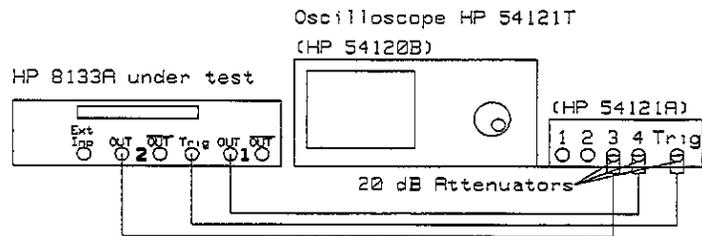

Figure 6-11. Inter-Channel Delay Test Set-up
28. Connect the HP 8133A to the 'scope as shown in Figure 6-11.